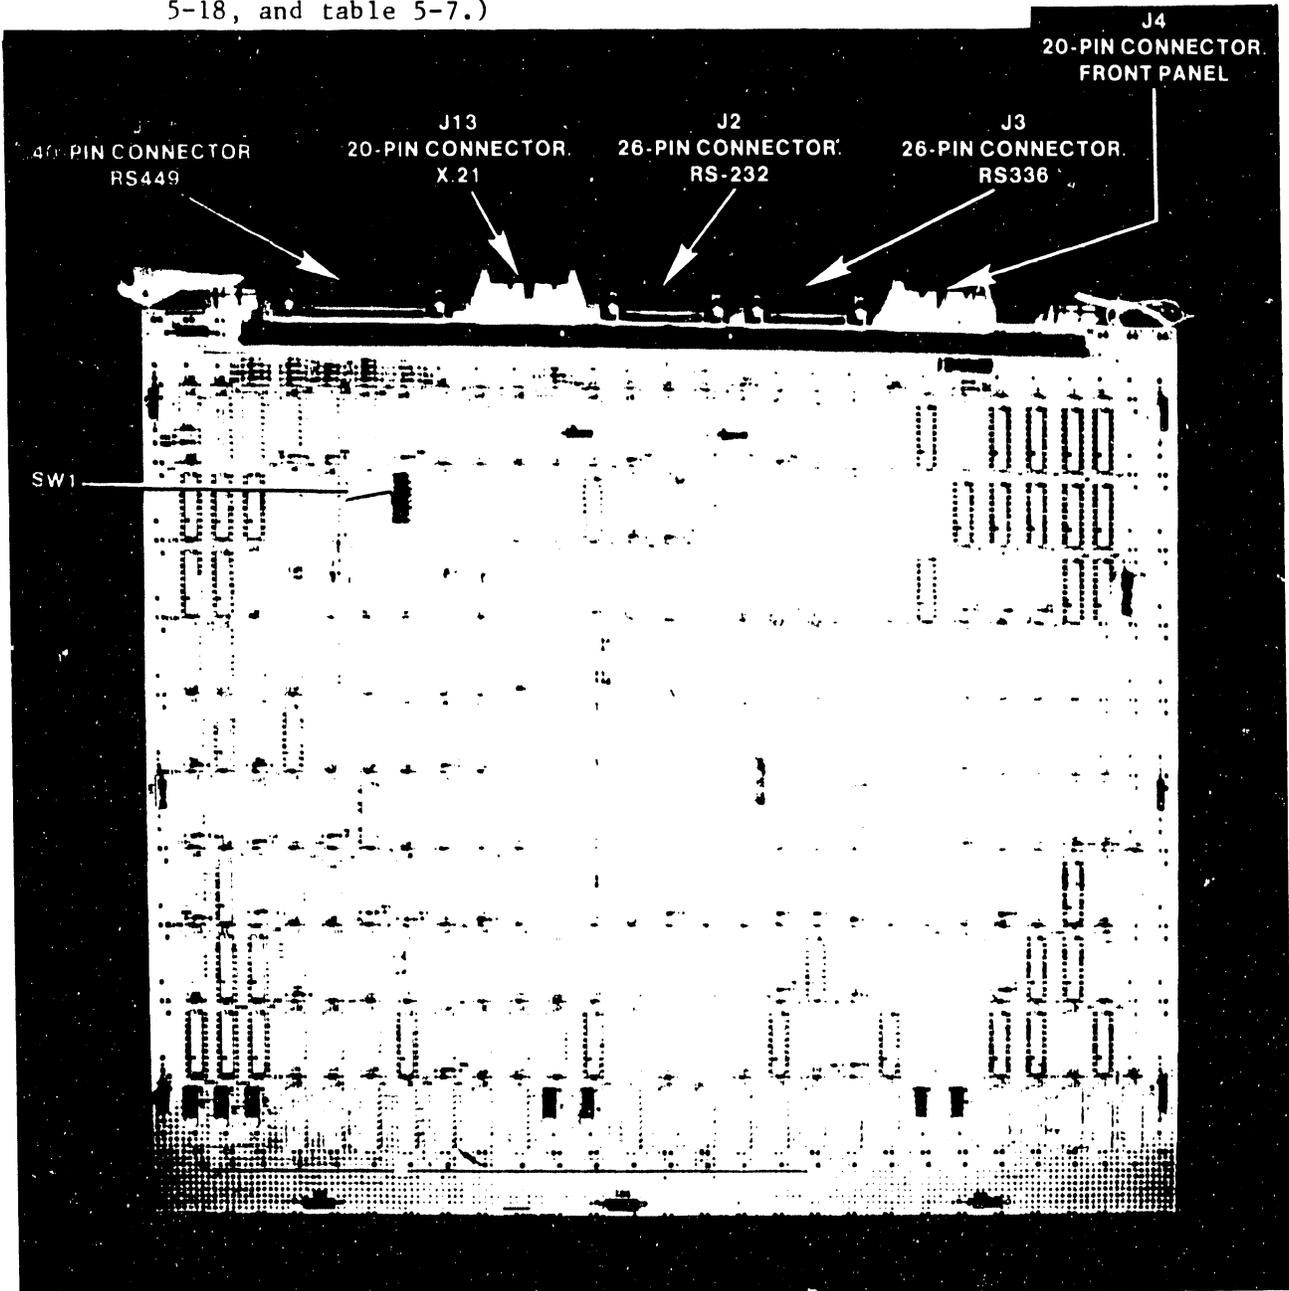
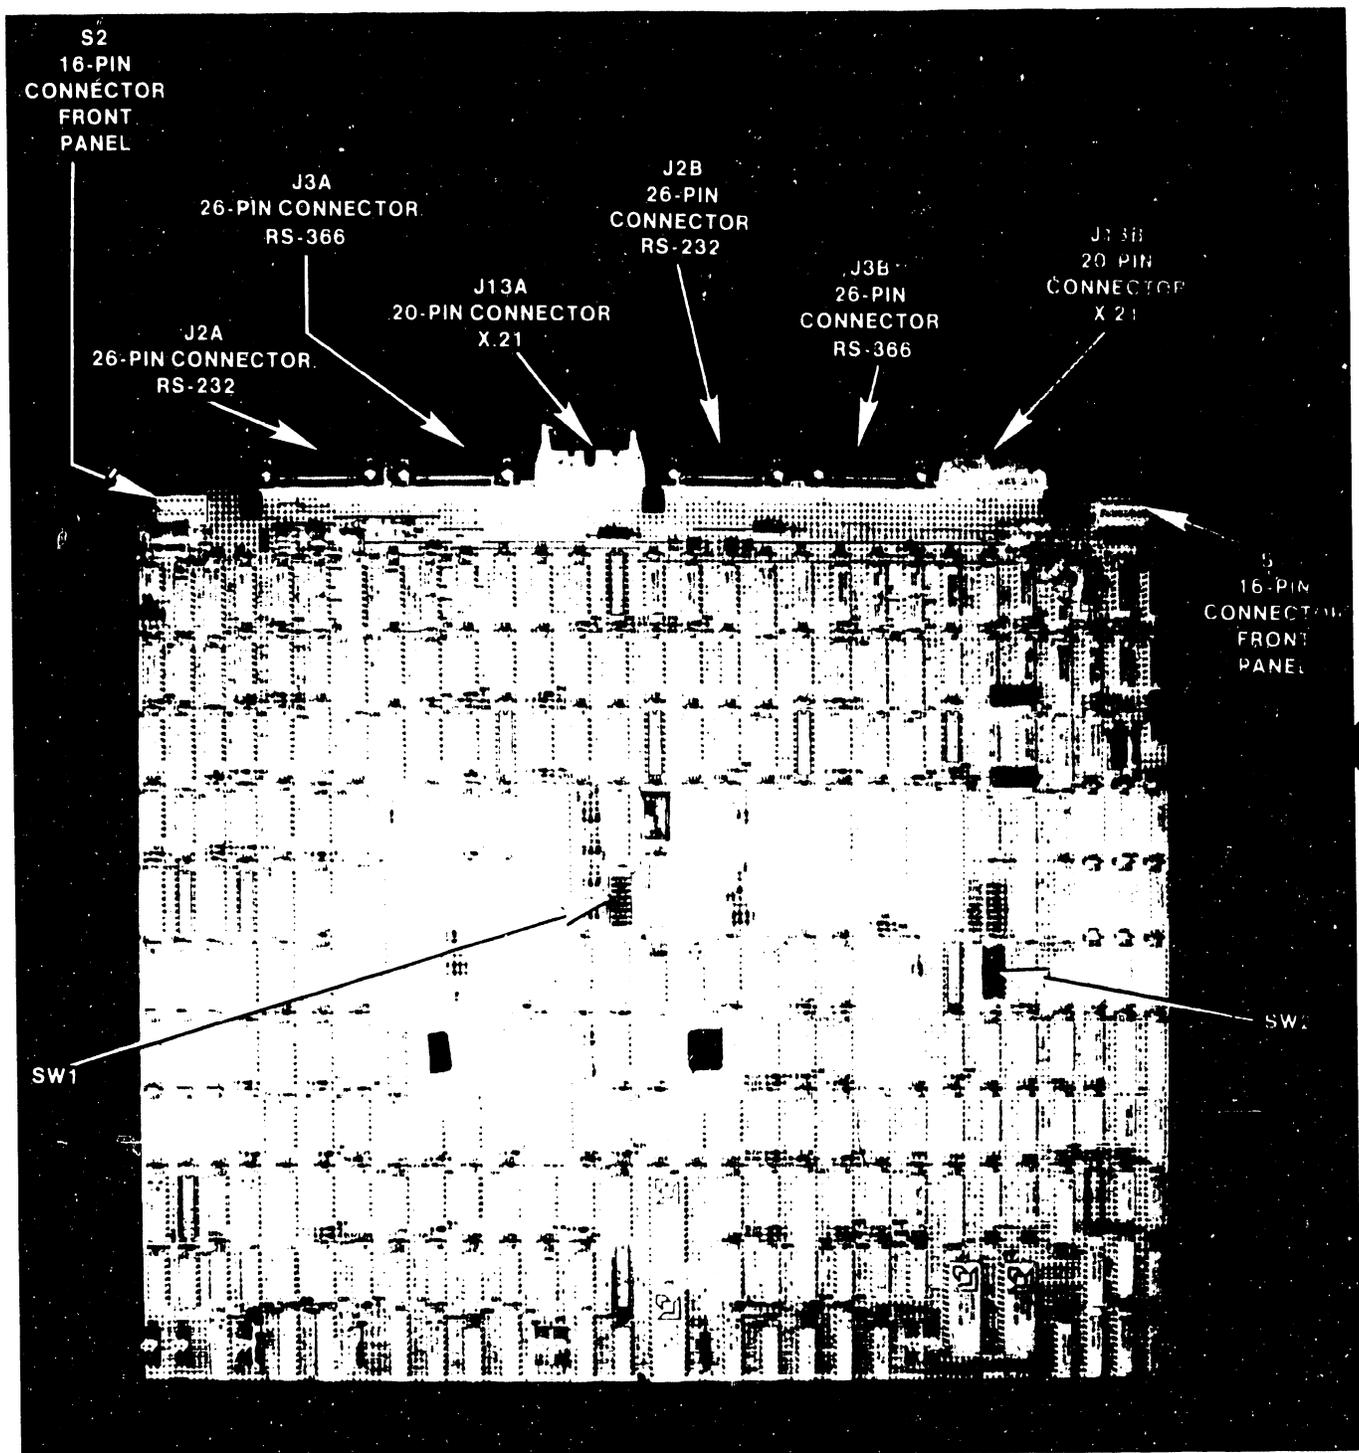

Figure 5-16. 210-8337 1-Port Telecommunications Adapter.
Figure 5-17. 210-8637 2-Port Telecommunications Adapter.
1. Remove all connectors from the top of the 1-port 210-8337-A Telecommunications Adapter (figure 5-16) or 2-port 210-8637-A Telecommunications Adapter (figure 5-17) in Motherboard slot #9 (I/ODA6). Note the position of all connectors for later reassembly. (Note the position of all cables on the boards that are already installed in the system. Some of these cables may have to be removed to allow removal and replacement of the Telecommunications Adapter.)
3. Check the settings of the 8-position Address/Status switch(s) SW1 (1-port) and SW1 and SW2 (2-port). (See figures 5-16, 5-17, and 5-18, and table 5-7.)